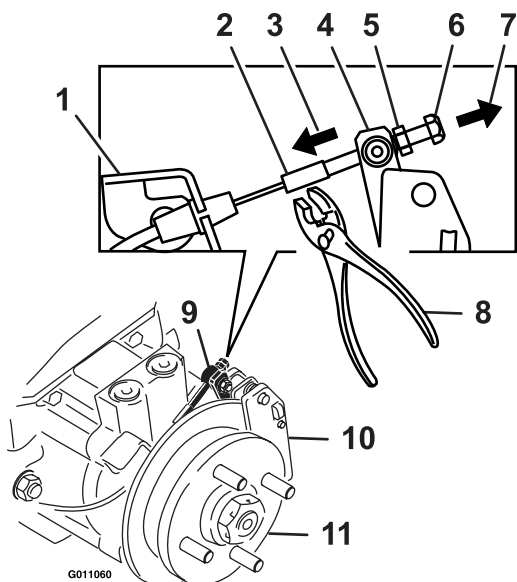

Figure 32
9. Hold the threaded rod end with a tool and loosen the lock nut away from the standard nut (see Figure 32). Do Not allow the cable to turn when the nuts are being loosened.
10. Remove all slack from cable by pulling on the caliper lever arm with a medium amount of force. Using hands and fingers only, push the caliper lever arm to engage the brake pads on the rotor until the lever stops. While holding the lever at the stopped position, use the other hand or fingers to pull the slack out of the cable threaded end through the swivel. Spin the standard nut against the swivel (see Figure 32).